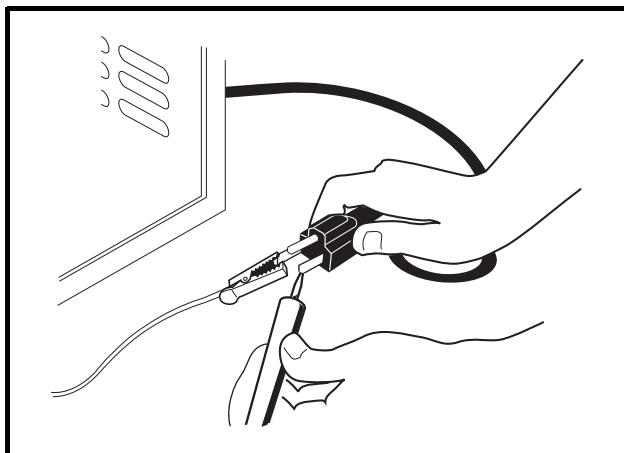

Figure 3-17 AC Cord Test
- 5.3. With relay bypassed, there should be continuity across the AC cord blades (Figure 3-17, Page 3-19).